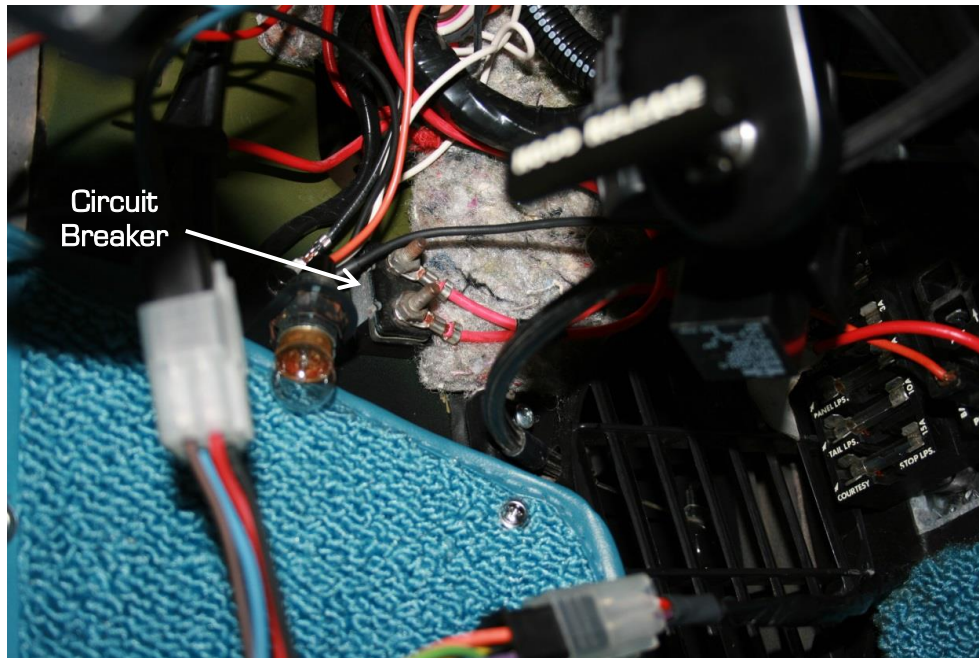
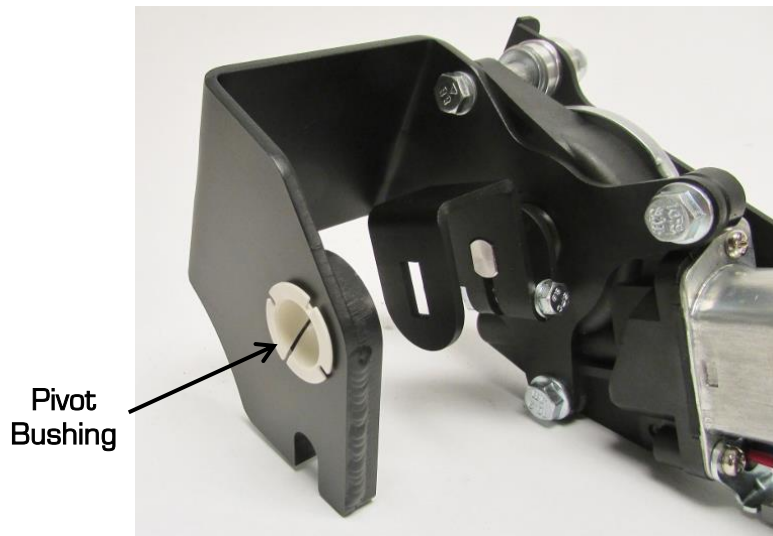

Figure 1 - Locate Circuit Breaker
Figure 4 - Install Pivot Bushing
7. With the motor assemblies removed, ensure that the plastic bushings that are located between the motor brackets and the headlamp door pivot shafts (the same bushing that is supplied in the kit (identified as item 5 in Figure 1) are in the brackets. If they did not stay in the motor brackets when removed, remove them from the headlight door pivot shafts or they will interfere with the installation of the new motors.
8. Identify the driver's side actuator assembly (Item 1) from Figure 1 and install a pivot bushing (Item 5) into the mounting bore (Figure 4).